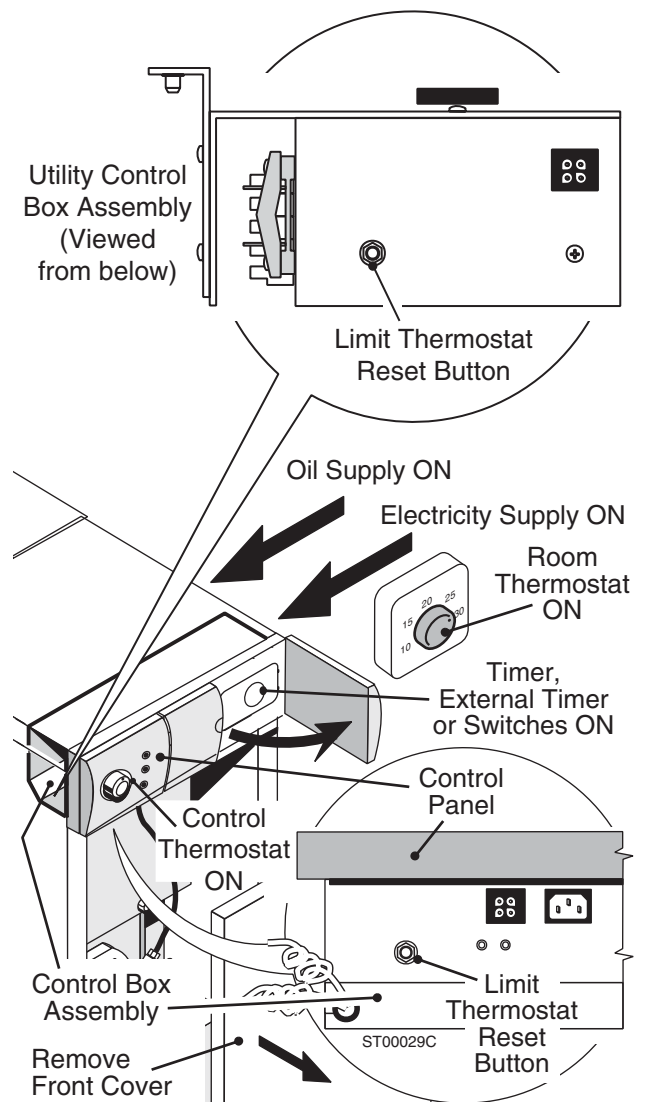

Fig. 1
- The Limit Thermostat operates if the boiler overheats for any reason. This is shown by the overheat light being lit (not Utility models). Should this happen at any time, remove the front casing by pulling forward off the mounting clips and press the overheat reset button (See Fig. 1). If the problem occurs again, turn off the electricity supply and contact your installer.